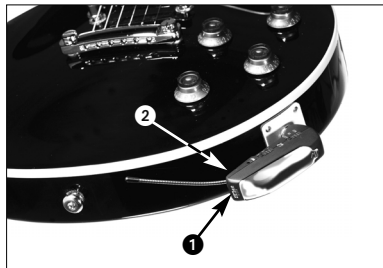

Fig. 5: Stabilizing the transmitter.
2. Screw the adapter plug (3) onto the threaded plug (4) on the transmitter (2) CW.
4.4 Stabilizing the Transmitter (refer to fig. 5)